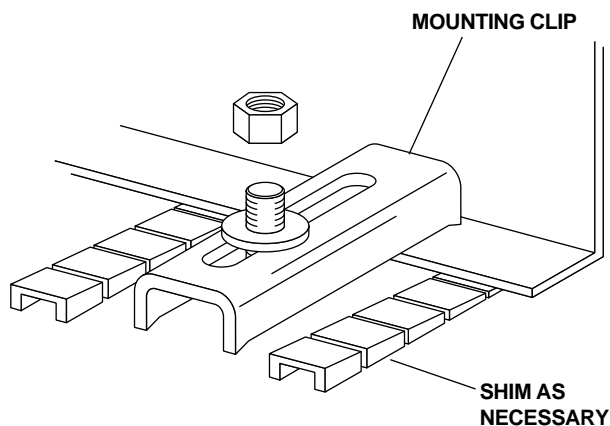

FIGURE 10
2. Secure the sub-base to the floor by tightening the mounting clips to the sub-base (see Figure 10).